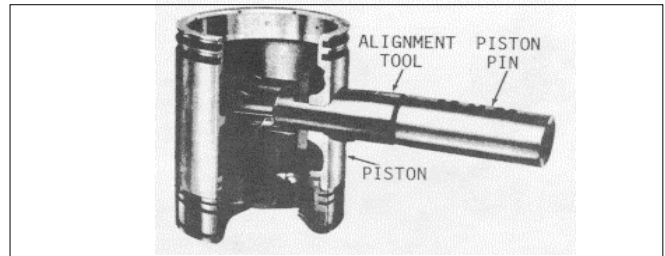

Fig. 7
- (4) Lubricate the piston pin with clean engine oil and install it as shown in Fig. 7.